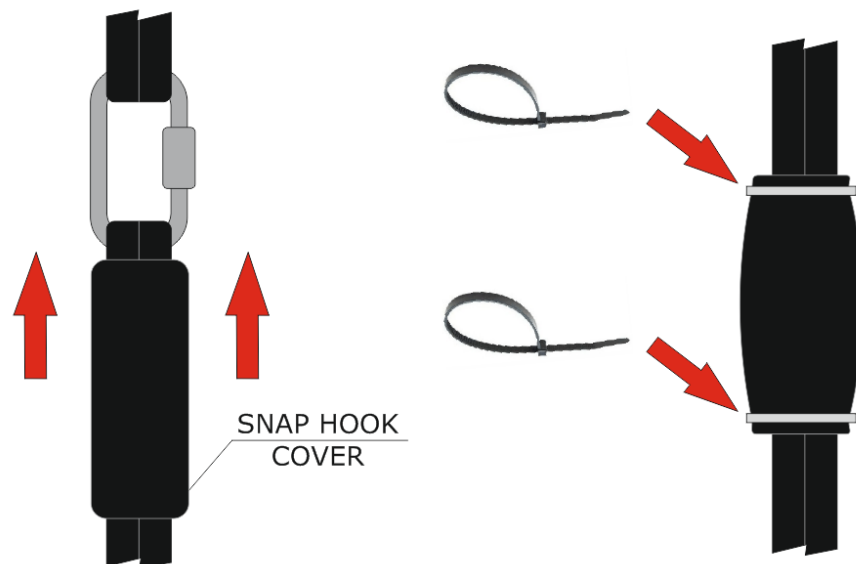

Figure 11
- 8) Connect the outside belt with the belt, which is going from the GRS System assembly by using a snap hook and cover it with a snap hook cover. Secure the cover with 2 plastic tapes (5mm width). Make sure that the **snap hook is connected correctly** (figure 11) and **the belt does not cross the rocket's bridle**.